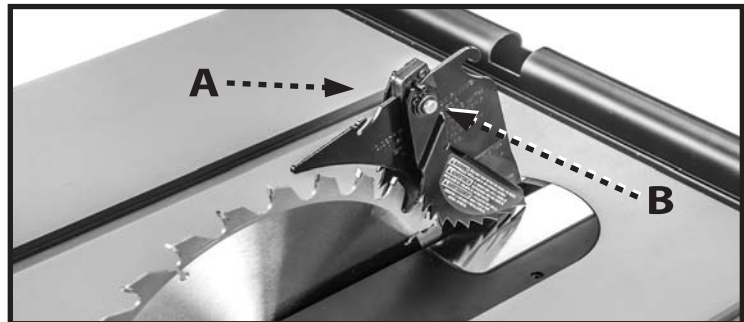

FIGURE 5
Insert the pawl assembly over the rearmost slot on the riving knife (A) as shown in Figure 5 and press the spring-loaded pin (B) on the right side of the pawl assembly.